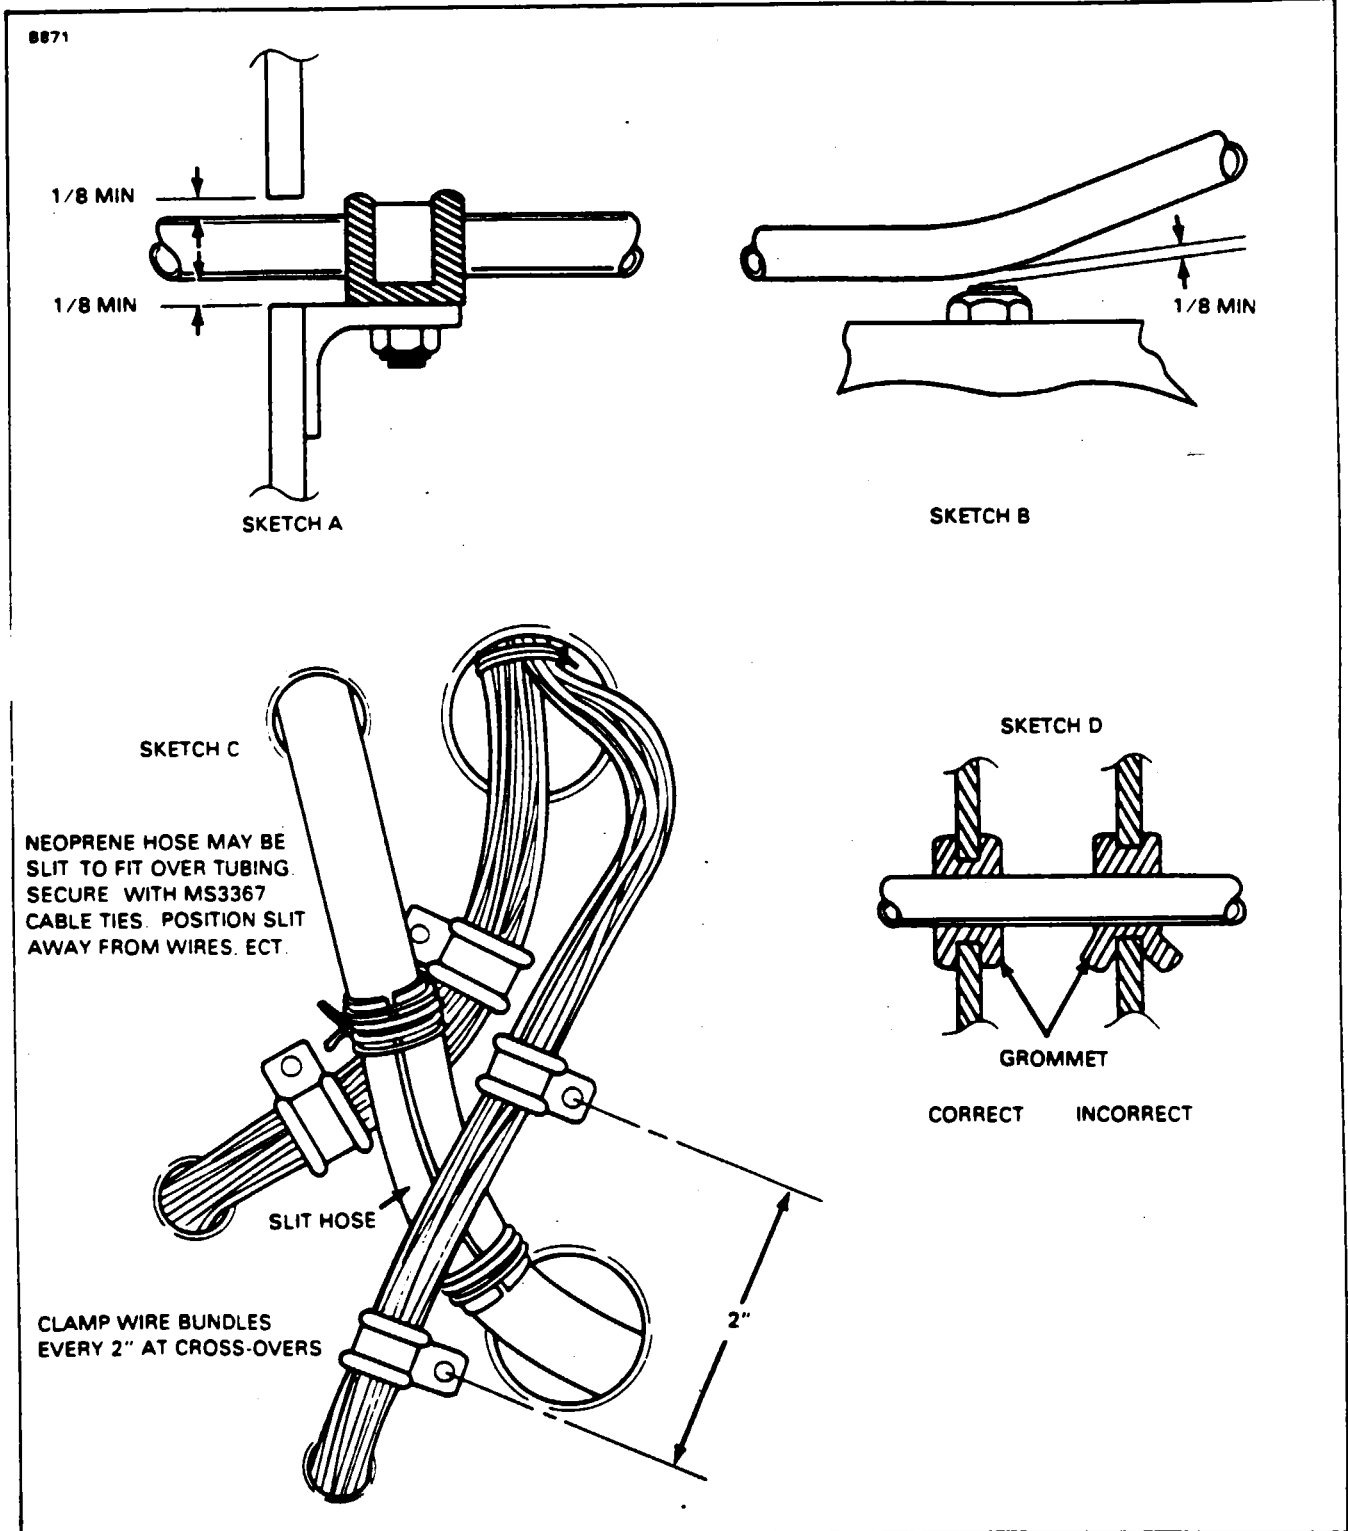

Figure 35-3. Oxygen Tubing Installation
9. Make sure to check the oxygen lines for proper clearance as follows; (Refer to Figure 35-3.)
- (1) When the six inch requirement cannot be complied with, one inch is allowed as long as electrical cables and other lines are supported at least every two inches; and, the oxygen tube(s) is protected by rubber neoprene hose fastened in place with cable ties at the location the specific item crosses or is near the oxygen tube(s). If an item is near the oxygen tube for a certain distance the oxygen tube for that distance must be covered.
- D. A minimum of 1/8 inch between tubing and structure adjoining the supporting clamp as shown in Figure 35-3, Sketch A.
- E. Where a tube passes through a grommet, the tube must not bear on the grommet in any way that might cause cutting of the grommet in service as shown in Figure 35-3, Sketch D.
- F. While in service, items may receive vibrations causing them to come in contact with other parts of the aircraft. With this in mind, low pressure tubing that is supported well enough to prevent relative motion must have at least a minimum clearance of 1/8 inch from a projector (bolt, nut, etc.). Low pressure tubing that cannot be supported well enough to prevent motion must have a minimum clearance of 1/8 inch allowed after the maximum travel of the tube. High pressure lines are affected similarly but require 1/2 inch minimum clearances. Refer to Figure 35-3, Sketch B.